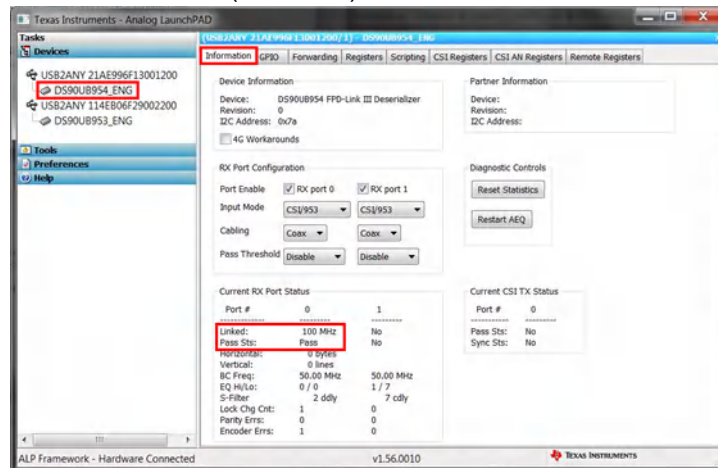

Figure 3-38. Verifying Pass and Lock for DS90UB954 (or variant) in ALP
- Ensure that the devices are setup properly by checking that Pass Sts: displays Pass and Linked has a frequency listed like shown in Figure 3-38. In addition, be sure that D3, labeled Lock, and D15 label Pass, are illuminated on the DS90UB954EVM (or variant).